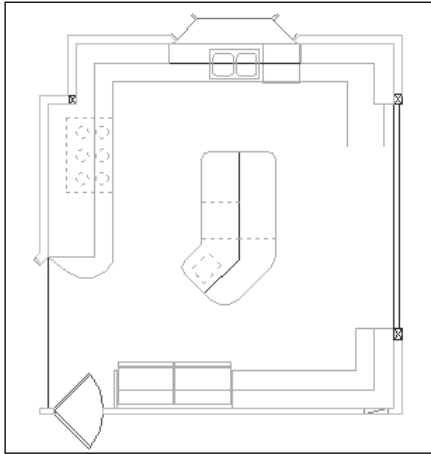

Figure 9-20: Kitchen floor plan with all selected items shown with dashed lines.
5. To select the six-burner stovetop, pick a point near ③, being careful that the pickbox at the intersection of the crosshairs doesn't touch any object. Transparently zoom in and back out, if necessary. Then move the mouse to ④ and pick again. The objects that you have chosen appear dashed to indicate that they have been selected.
8. Type **r ↵** at the **Select objects:** prompt (the prompt changes to **Remove objects:**) and pick the line at **8** to remove the external island line picked in Step 7. At this point, all of the selected items should be dashed, as shown in Figure 9-20.